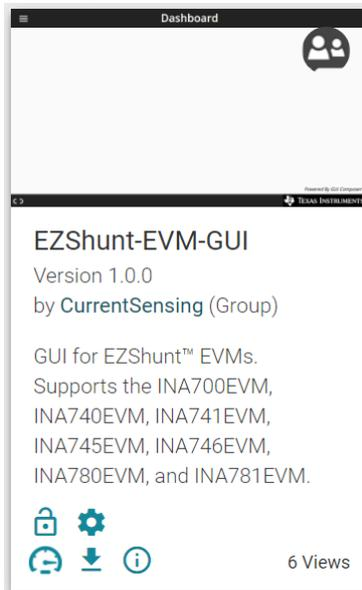

Figure 3-2. GUI Composer Application
3. Click the *GUI Composer* application (see Figure 3-2) to launch the GUI from the web browser.
4. Optionally, click the  icon in the *GUI Composer* application (see Figure 3-2) and follow the prompts to download the GUI for offline use.